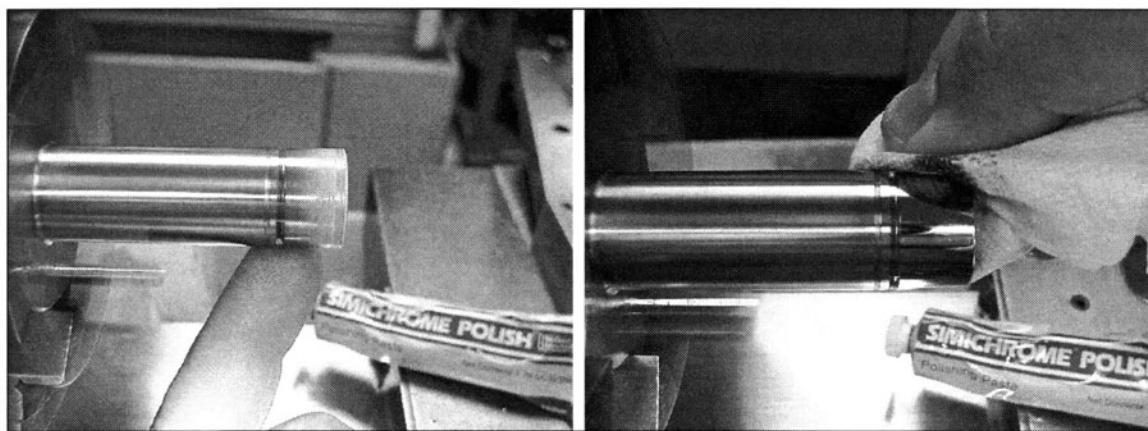

FIGURE 13-10 Final polishing with Simichrome® produces a high polish.
31. *Use Simichrome® paste for final high luster polishing. (See Fig. 13-10)*